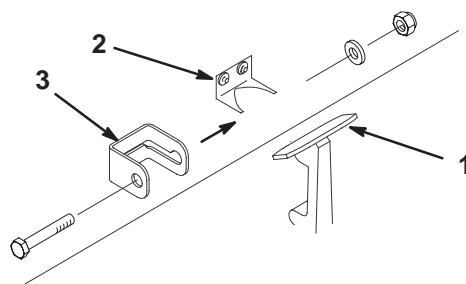

Figure 3
1. Unhook the hood latch from the hood latch bracket (Fig. 3).
2. Slide the hood lock bracket onto the latch (Fig. 3).
3. Hook the latch onto the hood latch bracket (Fig. 3).
4. Insert a bolt (1/4 x 1-1/2 in.) through the hood lock bracket and secure it with a flat washer and locknut (Fig. 3).